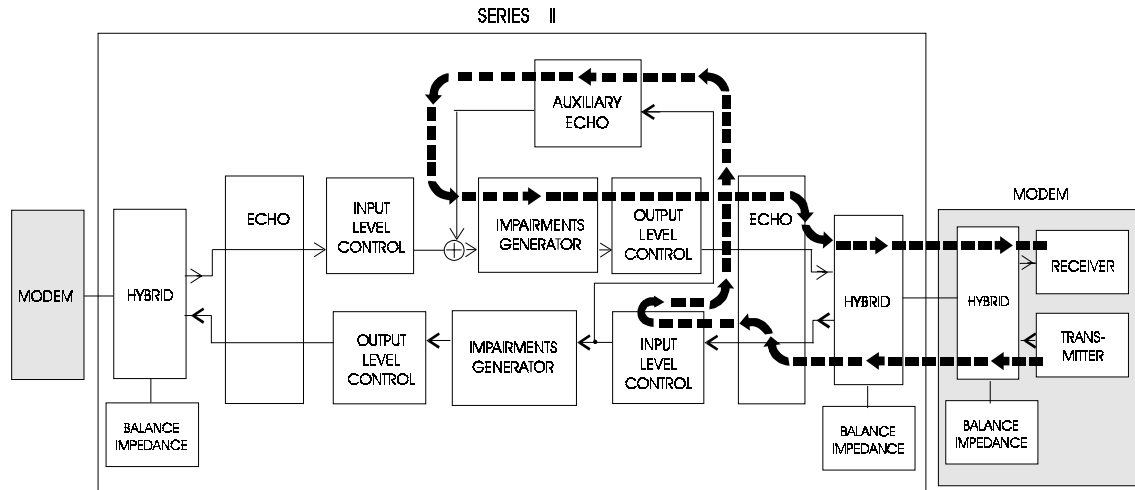

Figure 2-33. Intermediate Talker Echo
Station B (A) intermediate talker echo is illustrated in Figure 2-33 and is the reflection of modem B (A) transmit signal that occurs at a location intermediate to station A and station B. The level of this reflection is controlled by the auxiliary echo attenuation and its delay by the auxiliary echo delay.